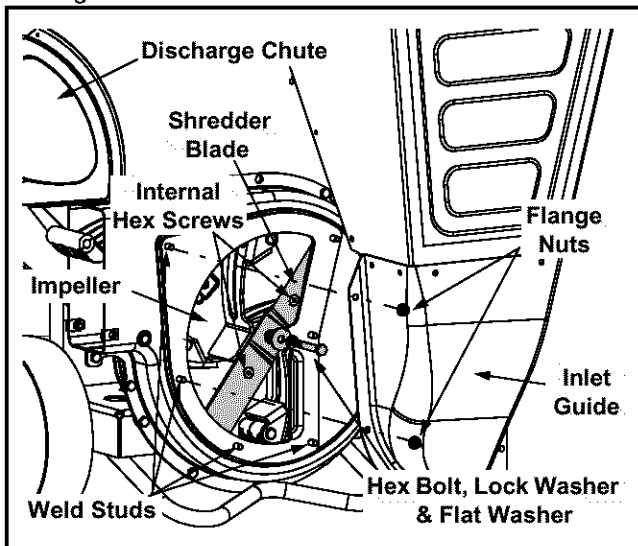

Figure 20
- Remove the six flange nuts which secure the hopper inlet guide to the impeller housing. See Figure 20.
- Remove the two internal hex screws which secure the shredder blade to the impeller. See Figure 20.
NOTE: Use a 3/16" hex key (Allen) wrench on the outside of the shredder blade and a 1/2" box (or socket) wrench on the inside of the shredder blade. See Figure 20. Hold the Allen wrench stationary and rotate the box (or socket) wrench to loosen the nut.